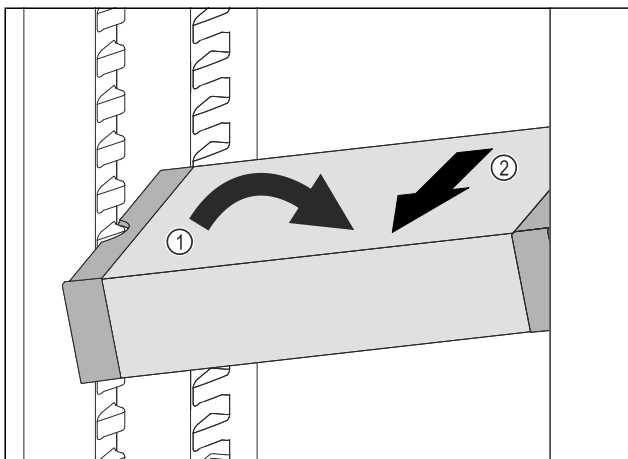

Fig. 145
- Set VarioSafe in refrigerator compartment at an angle. Fig. 145 (1)
- Take VarioSafe out to the front. Fig. 145 (2)